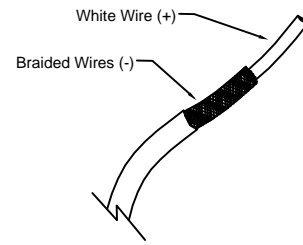

FIGURE-02
- Strip the coaxial cable about 2", exposing 2 wires (braided wire & white wire). (See Figure-02)